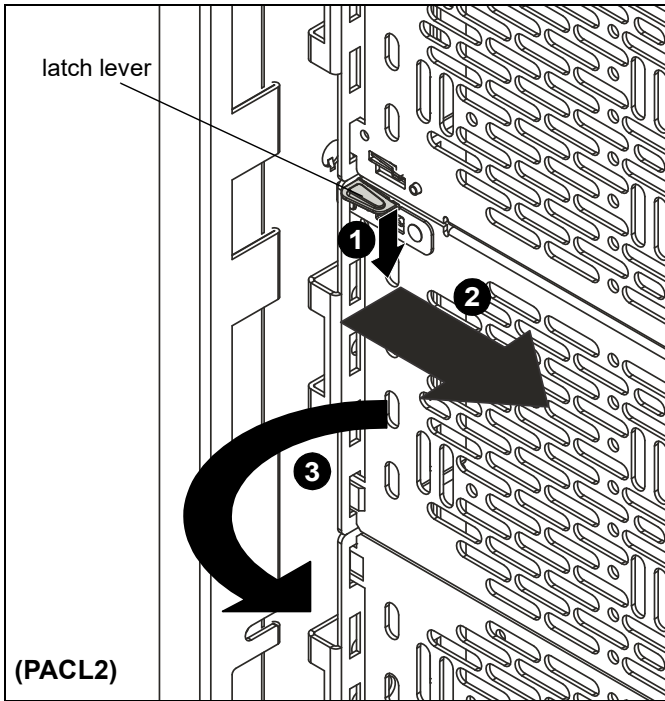

Figure 5
1. Push down on Lever Lock latch lever on backplane (A). (See Figure 5)
2. Pull backplane (A) out of adapter hole. (See Figure 5)
3. Remove backplane (A) from PAC box. (See Figure 5)